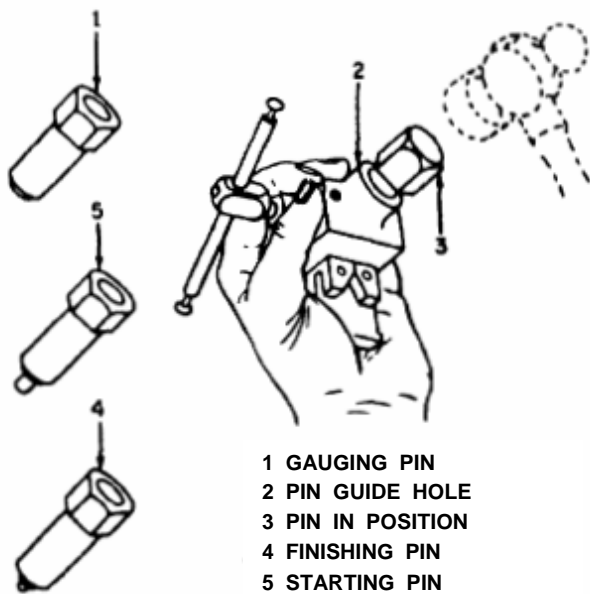

Figure 10. Double Flare Tool
19. Double Flare 5/16-inch Oxygen Tubing Joint. (Table 3) A hand tool is used to double flare 5/16-inch tubing used in oxygen systems. (See Figure 10) Procedures for double flaring 5/16-inch oxygen tubing are as follows:
- f. Hold double flare tool in the palm of hand with tubing extending between second and third finger. (See Figure 10)
- g. Insert gauging pin into pin guide hole and using a one-pound or lighter hammer tap gauging pin until shoulders of pin stop against clamp blocks. (See Figure 10, detail 1.)
- j. Hold double flare tool in palm of hand with tubing extending between second and third fingers. (See Figure 10)
- m. Insert finishing pin into pin guide hole and hammer it with sharp blows until shoulder of finishing pin stops against clamp blocks. (See Figure 10, Detail 5)